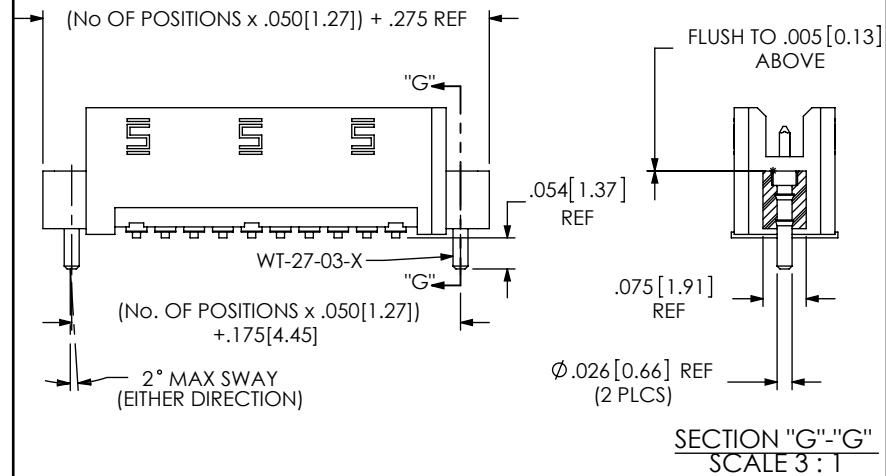

FIG 8
**-SN: SOLDER NAIL (USE WT-27-03) (NOT AVAILABLE WITH -A, -LC, OR -WT OPTIONS) (SEE FIG 8, SHEET 3)